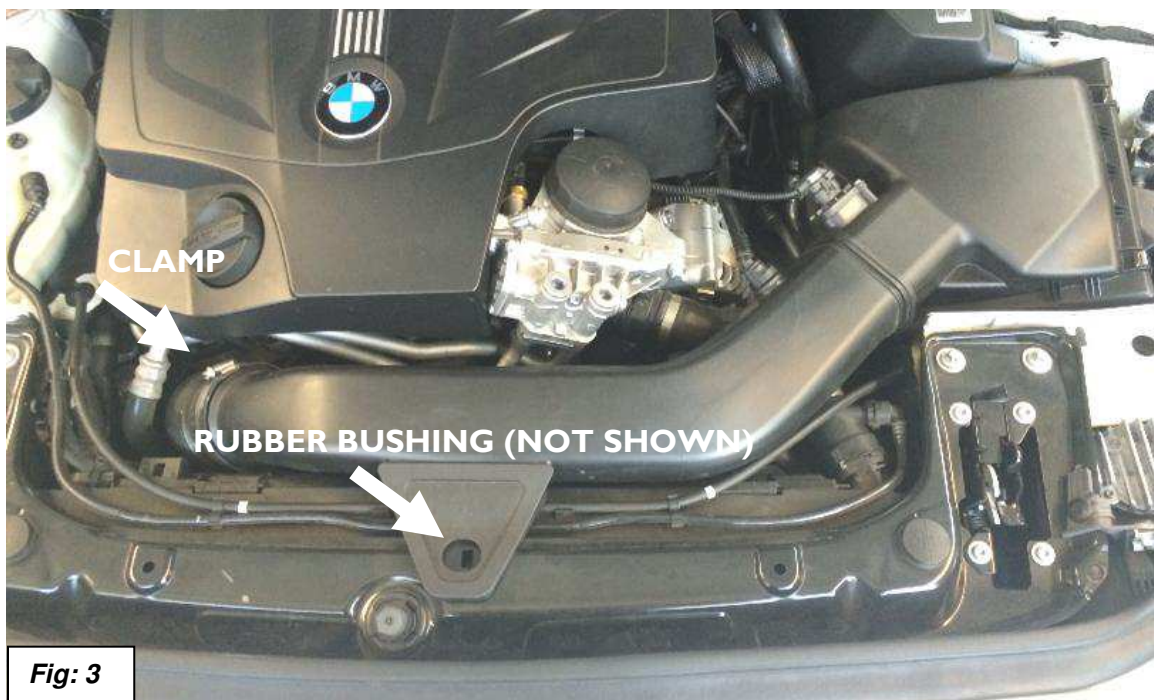

**Fig: 1**
3. Release the 4 clips at the perimeter of the airbox. See Figure 1.